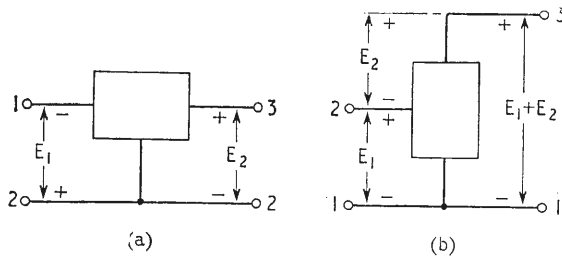

Fig. 4. Voltage gain in a passive network.
Any passive 3-terminal network which can produce a phase-reversed output at some prescribed frequency may be caused to give a voltage gain greater than unity merely by reconnecting the source and load. Fig. 4 shows the principle involved. The voltage between terminals (1) and (3) in Fig. 4 (a) is clearly the sum of the voltages between (1) and (2) and (2) and (3). By making (1) the common terminal instead of (2), we arrive at Fig. 4 (b) and the open-circuit output voltage becomes  $E_1 + E_2$ . The highest voltage gain will be obtained when the original network gives the lowest attenuation. This normally calls for the use of graded networks using high-impedance elements at the output end, and it also requires the use of a very-high external